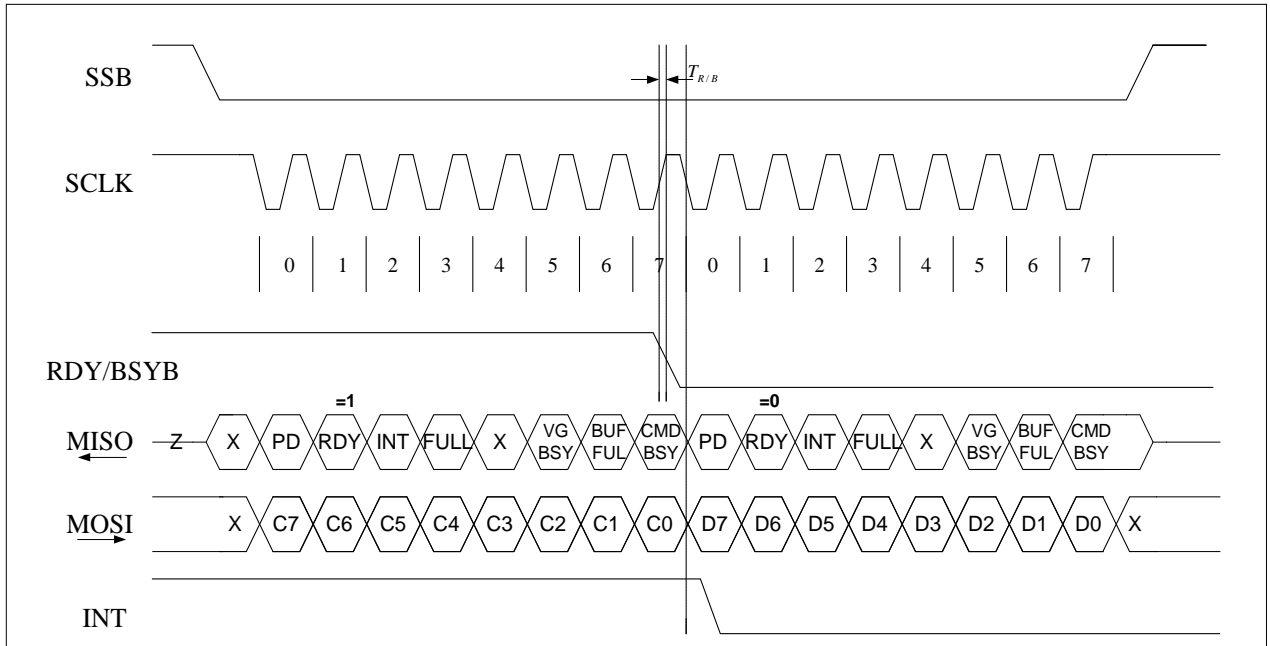

Figure 6-3 SPI Transaction Ignoring RDY/BSYB
The INT pin will go low to indicate (1) data overrun/overflow when sending data to the ISD2100; or (2) invalid data from ISD2100. See Figure 6-3 for the timing diagram.